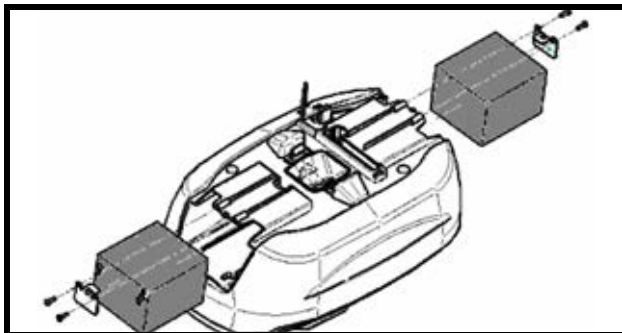

Fig. 36
- 8) Reinstall the batteries. Screw the holding plates back in place by using a Torx T-20 screwdriver. Reconnect the battery connectors – Match the wire colors (red to red, black to black) (see Fig. 36).